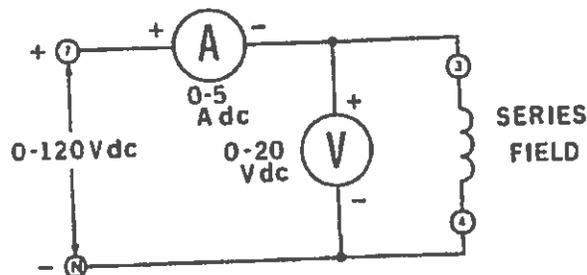

Figure 11-2.
8. Connect the circuit shown in Figure 11-2.
- This is the same circuit shown in Figure 11-2 except that the armature winding (plus the brushes) has replaced the series field winding.